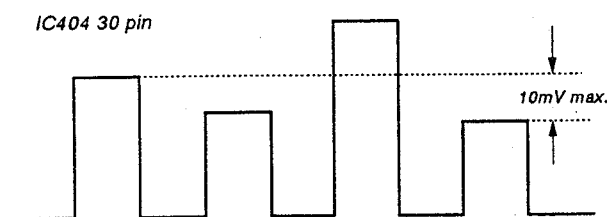

Fig. 16
- 4) Using **CHROMA NTSC 358 NOR**, adjust so that the tops of the waveform line up as in the diagram below. (Fig. 16)
- 2) Adjust **CHROMA NTSC 358 ACC OFF** in the same manner as 8-4 above. (Fig. 16)